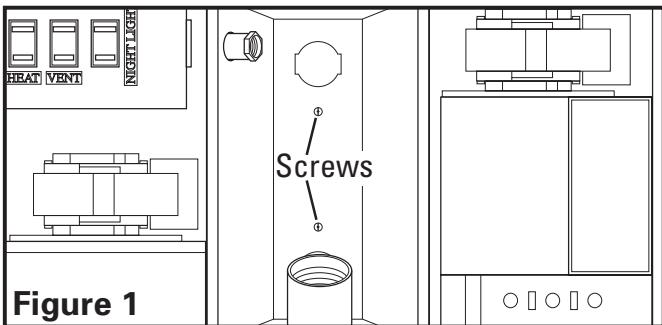

Figure 1
2. Remove the two machine screws holding the light reflector in place. Keep the reflector and screws in the carton until needed so they do not get damaged or lost (**Figure 1**).